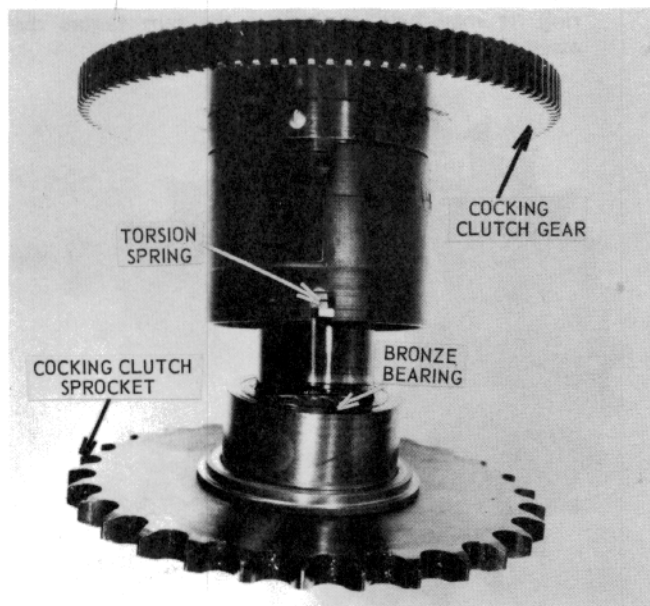
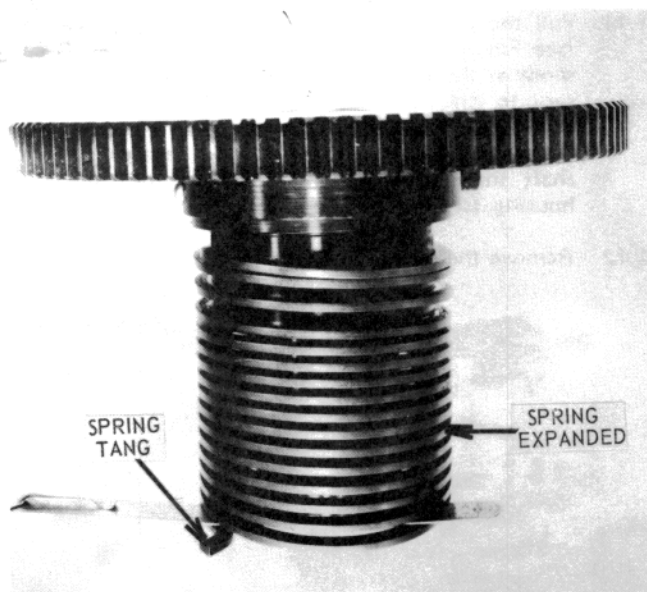

Figure 55 — Cocking Clutch Sprocket and Cocking Clutch Gear Separation
Figure 57 — Torsion Spring Expanded
3.1.3 Match mark cocking clutch and cocking clutch gear if the gear is removed from the cocking clutch (see Figure 55).
- 3.1.5 Expand the spring and thoroughly clean it with solvent (see Figure 57). If spring is broken replace entire clutch. Reassemble the spring and gear with the sleeve (see Figure 55). Tilt sleeve over tab side of spring. Reach in and grasp spring tab with a pair of pliers, pull to extend the spring, push sleeve down over the spring and line up sleeve notch with spring tab.
- 3.1.6 Lubricate bronze bearing in the cocking clutch sprocket before reassembly (see Figure 55).